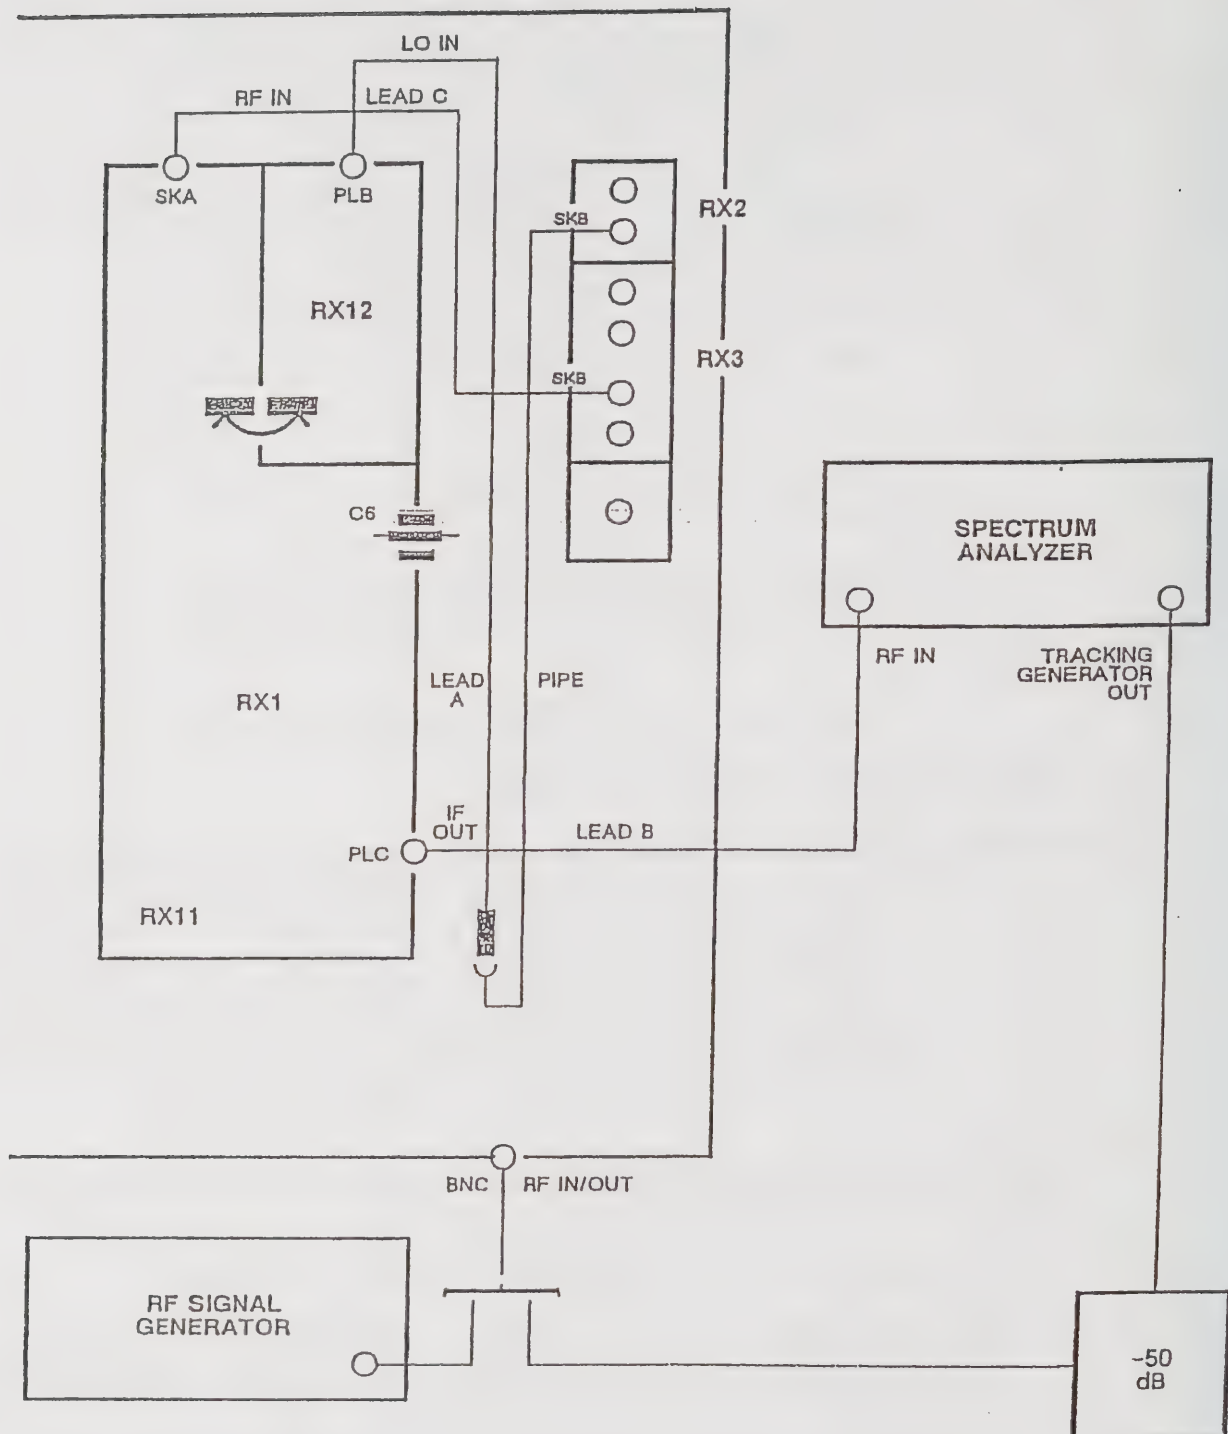

Fig. 3-17 Connections for checking 20 dB IF 180 kHz band-pass amplifier
- (1) On the 2955B, set the MODE to TRANSMITTER MONITOR, the TRANSMITTER TEST FREQUENCY to 71.4 MHz, the RF IMAGE to LOWER, the IF FILTER to 180 kHz and the RF IN/OUT to the BNC socket.
- (2) Using lead A, connect its SMC plug to the free end of the pipe to SKB on RX2 and connect its SMC socket to PLB on RX1. See Fig. 3-17.
- (3) Using lead B, connect its SMC socket to PLC on RX1 and connect its other end to the spectrum analyzer (RF input).
- (4) Using lead C, connect one SMA plug to SKB on RX3 and connect the other SMA plug to SKA on RX1.